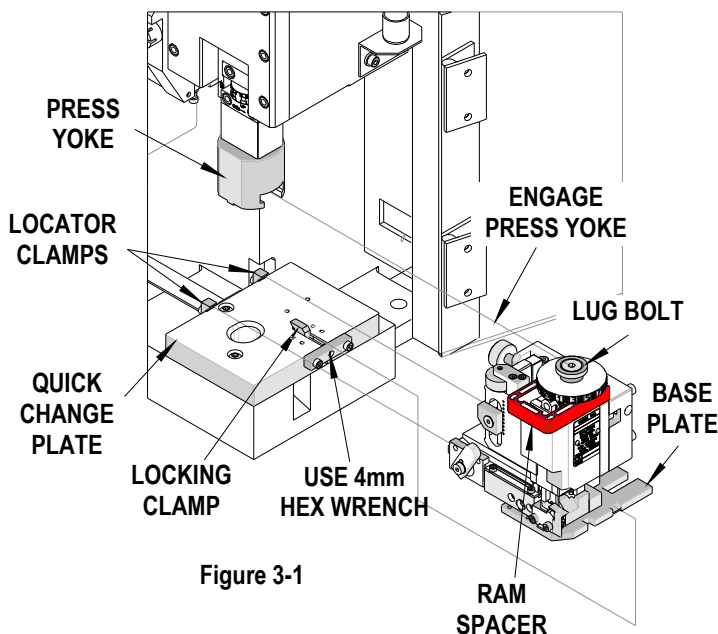

Figure 3-1
5. Slide the applicator lug bolt in the press yoke. See Figure 3-1.